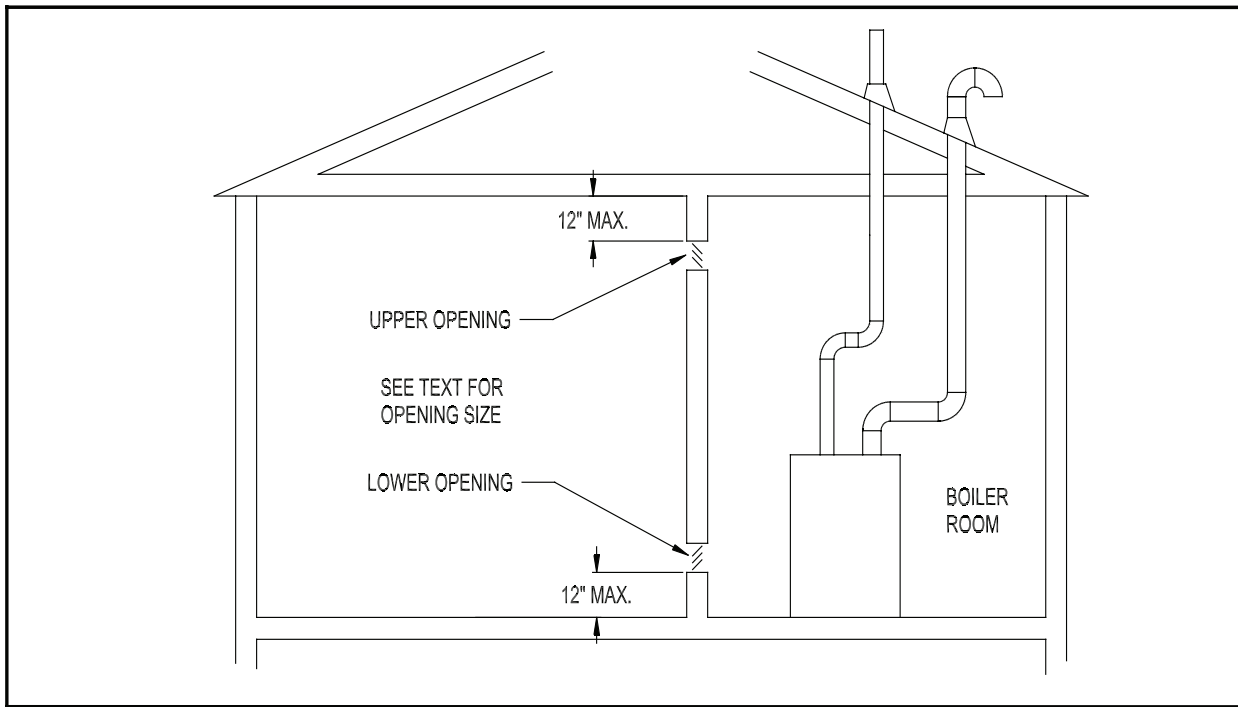

Figure 5.1: Boiler Installed In A Confined Space, Ventilation Air From Inside
Step 2a: If the boiler is to be placed in a confined space, provide two openings into the boiler room, one near the floor and one near the ceiling. The top edge of the upper opening must be within 12” of the ceiling and the bottom edge of the lower opening must be within 12” of the floor (Fig 5.1). The minimum opening dimension is 3 inches.